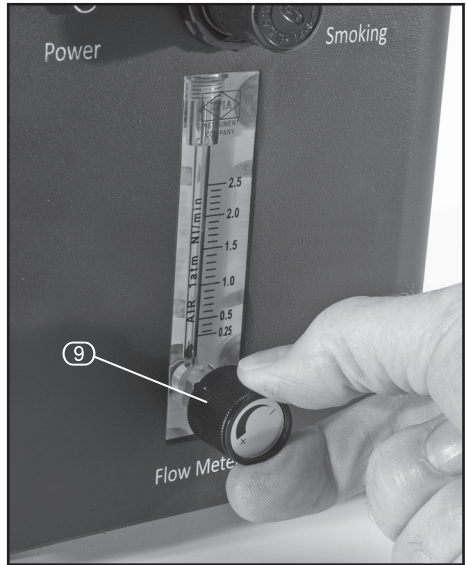

FIG.5
8.5 SET UP FOR EVAP/LOW PRESSURE TESTING - FIG.5
- a. Turn flow control knob (9) anti-clockwise to release air pressure.